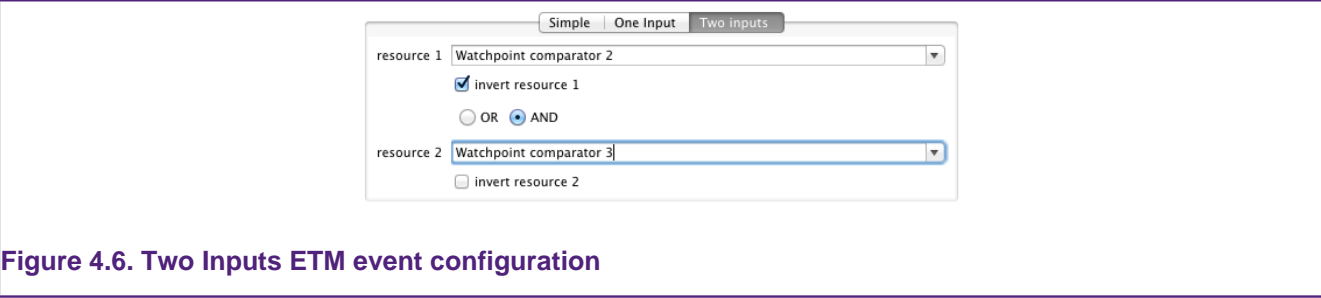

Figure 4.6. Two Inputs ETM event configuration
- To combine two event resources select the **Two Inputs** tab. The events can be chosen from the drop-downs and the logical combination operation selected. As with the **One Input** tab the resources can be inverted. See Figure 4.6.